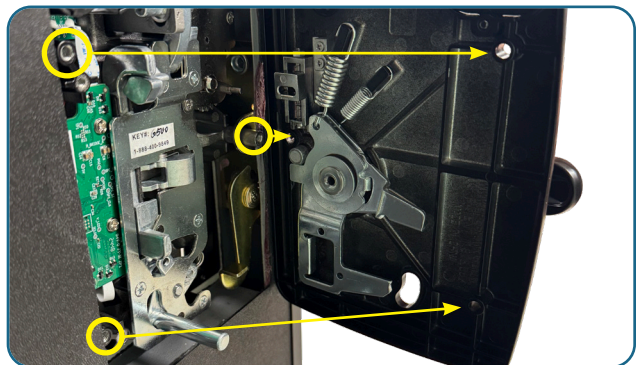

Fig. 7
D. The 3 screw posts on the interior housing align with the 3 screw bosses on the exterior housing. (**Fig. 7**)